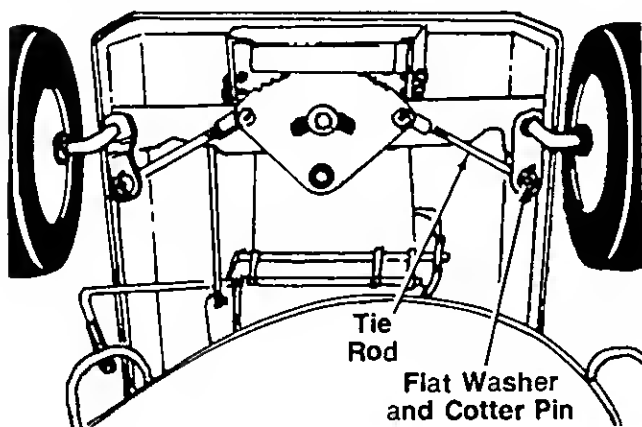

FIGURE 20.
mower. The front wheels should toe-in 1/8 inch. See figure 20. To adjust, follow these steps:
1. Remove the cotter pin and flat washer which hold the tie rod to the axle bracket. See figure 20.